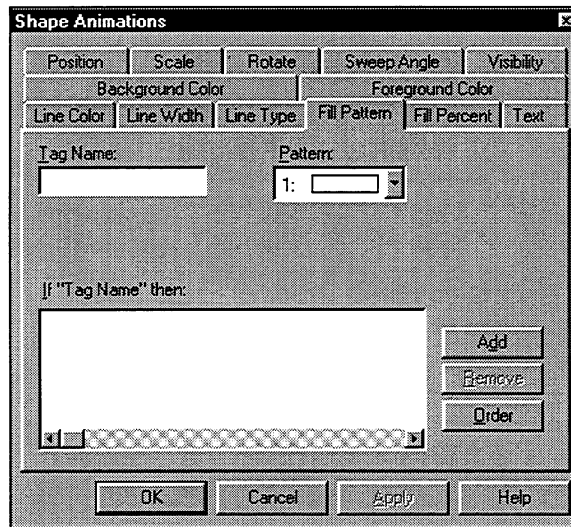

Figure 7-4. Fill Pattern Animation Page
3. Choose the Fill Pattern tab to access the Fill Pattern animation page, as shown in Figure 7-4.